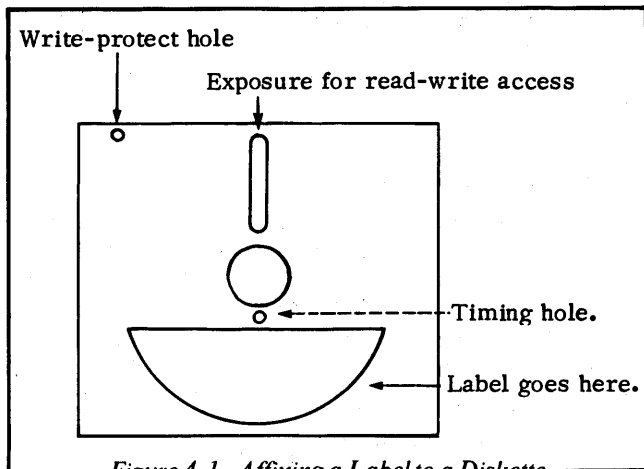

Figure 4-1. Affixing a Label to a Diskette
- If there is no label on the inner envelope, affix one. Lay the diskette down with the write-protect hole facing away from you and apply the label as shown in Figure 4-1.